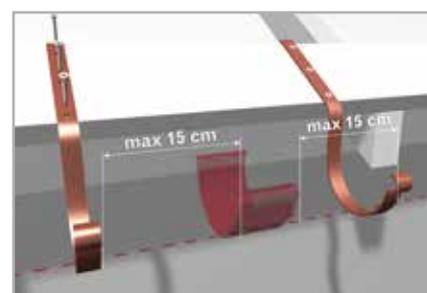

Fig. 3
- 1.8 At the outlet, connector and corner, the brackets should be installed up to a maximum of 15 cm **(Fig. 3)**